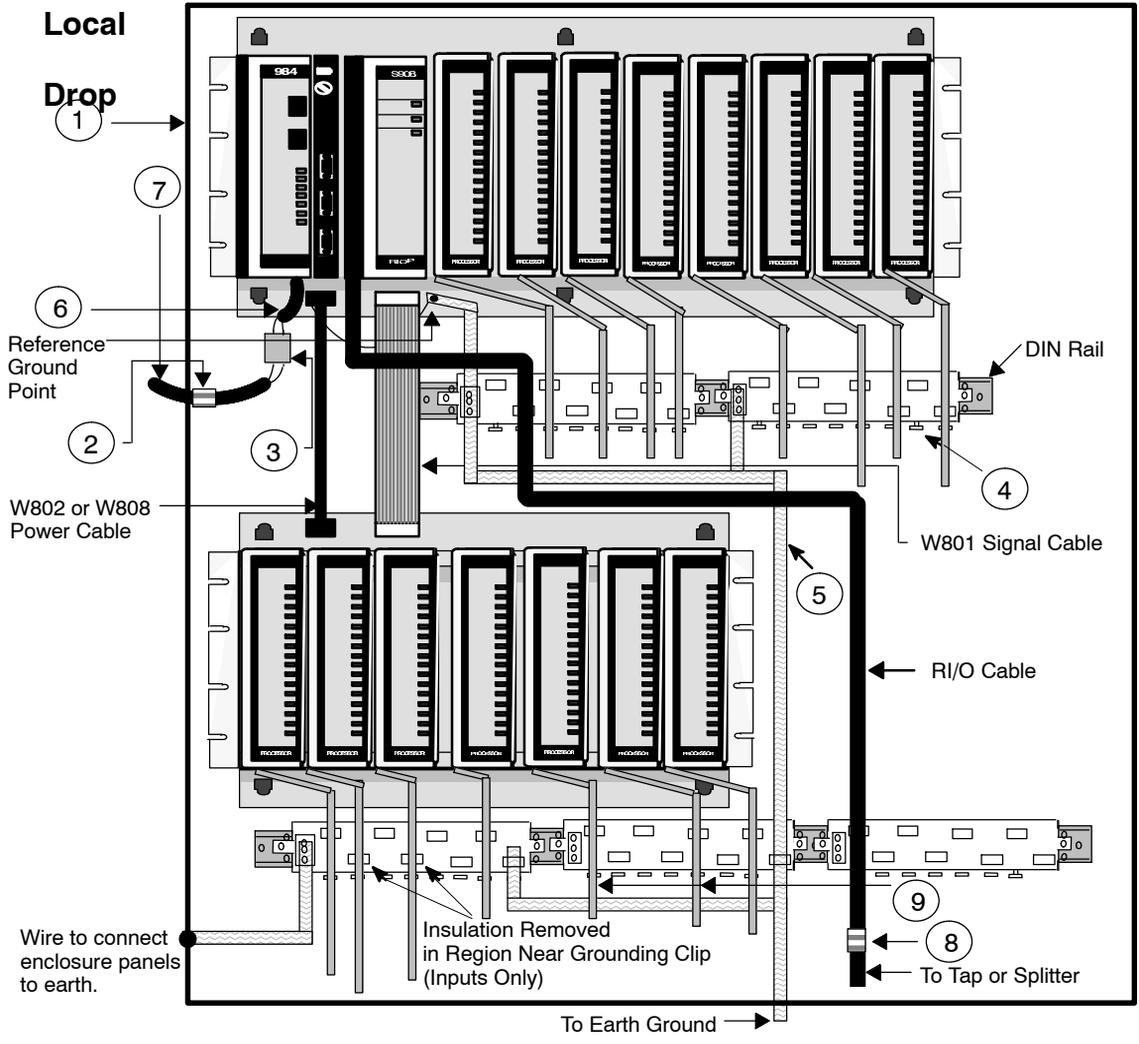

Figure 4 Typical CE Installation for a Local Drop
- Install braided earth ground as shown in Figure 4 from building earth ground to grounding clip (or clips as required) and to back-plane ground reference.
Parts List for Figures 4 through 6